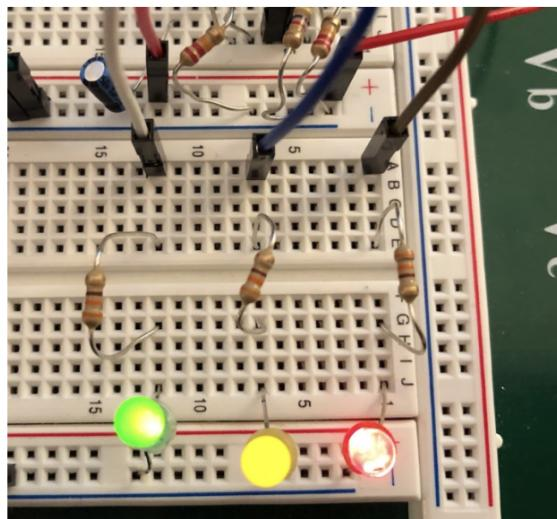

Figure 4: Testing setup for the filtering stage of the analog spectrum analyzer
3. Connect 330Ω resistors and LEDs to the output of each op amp as shown in Fig. 4 such that the LEDs represent increasing frequency bands moving left to right.